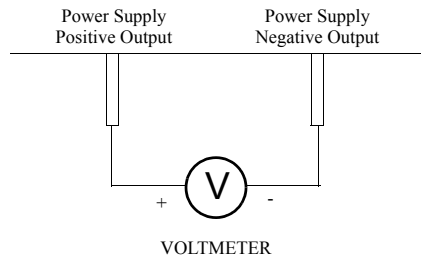
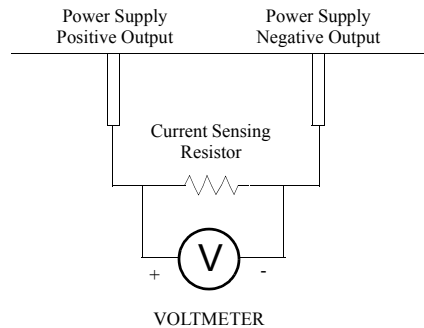

Figure 4.1 Voltage Calibration Setup
Figure 4.2 Current Calibration Setup
5. Connect a digital voltmeter (DVM) for voltage or OVP calibration, or, a current shunt rated for the full output current of the supply and a DVM for current calibration. See Figure 4.1, Voltage Calibration Setup or Figure 4.2, Current Calibration Setup.
1. Connect the unit to the digital voltmeter as shown in Figure 4.1. See also “Calibration Setup” on page 48, step 4.
1. Connect the unit to the digital voltmeter (DVM) as shown in Figure 4.1.
1. Ensure the current shunt has been connected to the power supply as shown in Figure 4.2. See also “Calibration Setup” on page 48, step 4.
1. Ensure the current shunt has been connected to the power supply as shown in Figure 4.2. See also “Current Calibration Setup” on page 51, step 4. Connecting a DVM is optional.
1. Connect the unit as for voltage mode calibration. See Figure 4.1. See “Calibration Setup” on page 48, step 4. (Optional step.)